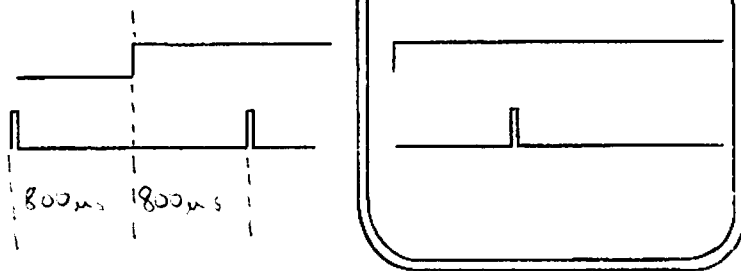

FIGURE 5-1 WS TIMING ADJUSTMENT
5.2 ELECTRICAL ADJUSTMENTS (REFER TO FIGURE 5-1)
- 1) WS Adjustments - (Figure 5-1) WS is generated by the timing disk teeth passing the magnetic reluctance pickup. This signal must be adjusted by R71 on the 6761 board for a complete cycle of $1600 \mu\text{s} \pm 25 \mu\text{s}$ monitored at L19 Pin 5 of the 6761 board (negative trigger in normal trigger mode). R10 must then be adjusted to obtain a squarewave (50% duty cycle).
- 2) After obtaining the proper waveform for WS (Figure 5-1), the following pulses should be checked and/or adjusted.